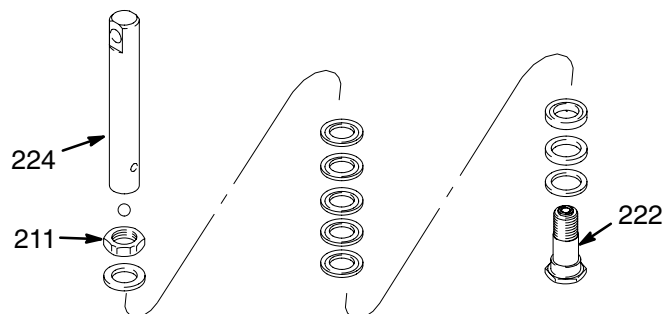

Fig. 27 02398
5. Clamp the piston rod (224) in a vise. Loosen the nut (211). Unscrew the piston valve (222). Remove the piston packings. See Fig 27.